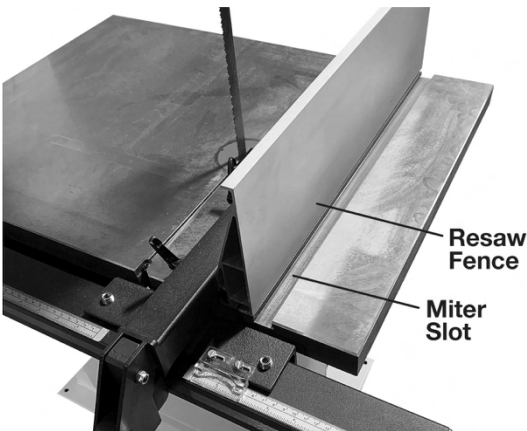

Figure 5-24
1. Slide fence against edge of miter slot (Figure 5-24) and push down lock handle to lock position. The fence should align parallel to miter slot along entire length of fence.